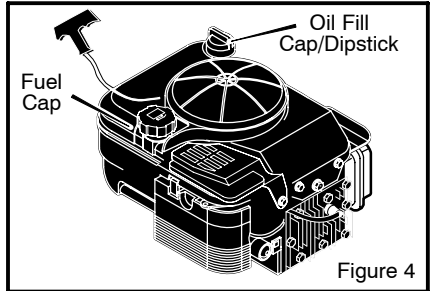

Figure 4
1. Remove the oil fill cap/dipstick shown in Figure 4. Fill the crankcase to the **FULL** line on oil fill cap/dipstick. **DO NOT OVER-FILL.**